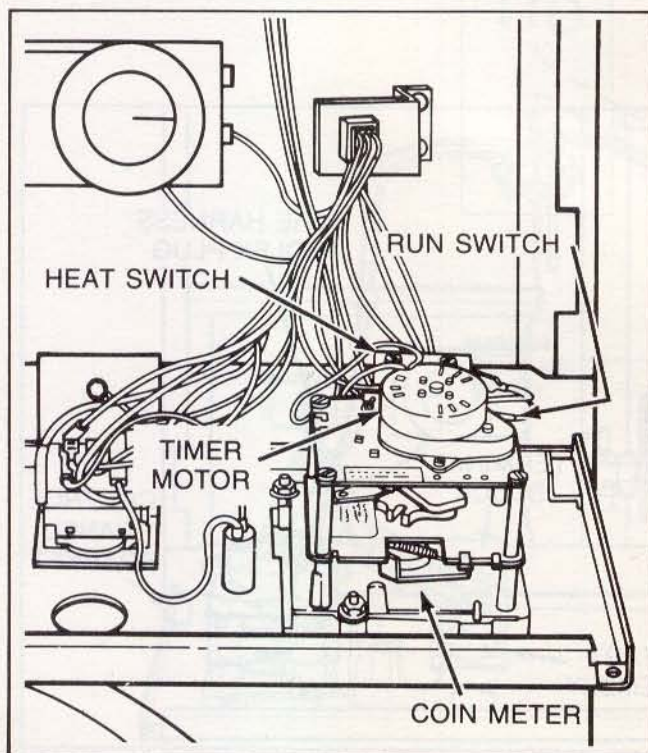

Figure 3
4. **COIN METER - Metered Models** (Refer to Figure 3)
**Timer Motor** (Refer to Figure 3)
**Heat or Run Switch** (Refer to Figure 3)